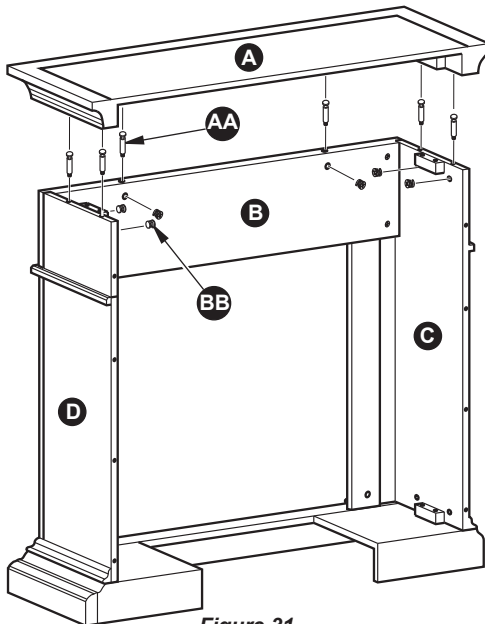

Figure 31
4. Insert 6) Cam Locks (BB) into assembled frame (B,C,D). Screw 6) Cam Dowels (AA) into Top (A). Attach Top (A) into assembled frame by tightening the Cam Locks (BB) as shown in Figure 31.